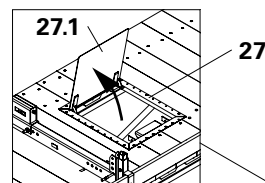

Fig. A2.04a
- Place foldable hatch 55 x 60 (27) in the cut-out. The cover (27.1) opens towards the wall side. (Fig. A2.04a)